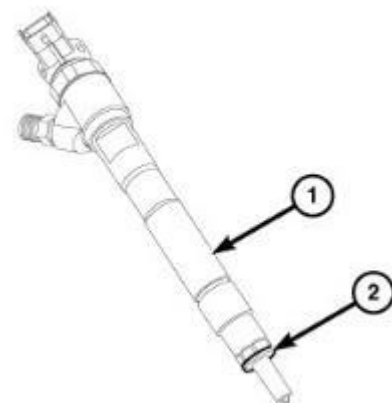

Figure 47 – Fuel Injector
47. Clean the bottom of the fuel injector bore with Brush, Injector Bore 9717 and **make sure the old copper sealing washer (2) is not stuck in the bore** (Figure 47).
53. Install a **NEW** sealing washer (2) onto the fuel injector (1) (Figure 47).